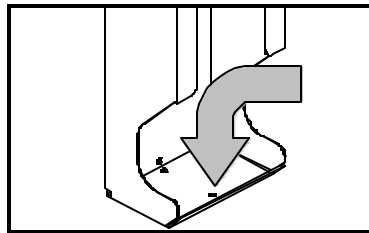

Figure 6
Step 4 cont'd...Use the holes in the front of the bottom of each channel (fig. 6). Don't drill through the sole plate, just deep enough to start the #6 screws. Be patient with the tuna channels. You will need to tilt the drill to get the holes drilled. Try to keep it as vertical as possible. **Be sure not to over-tighten the screws and strip them out of the wood.** Repeat this process for each channel.